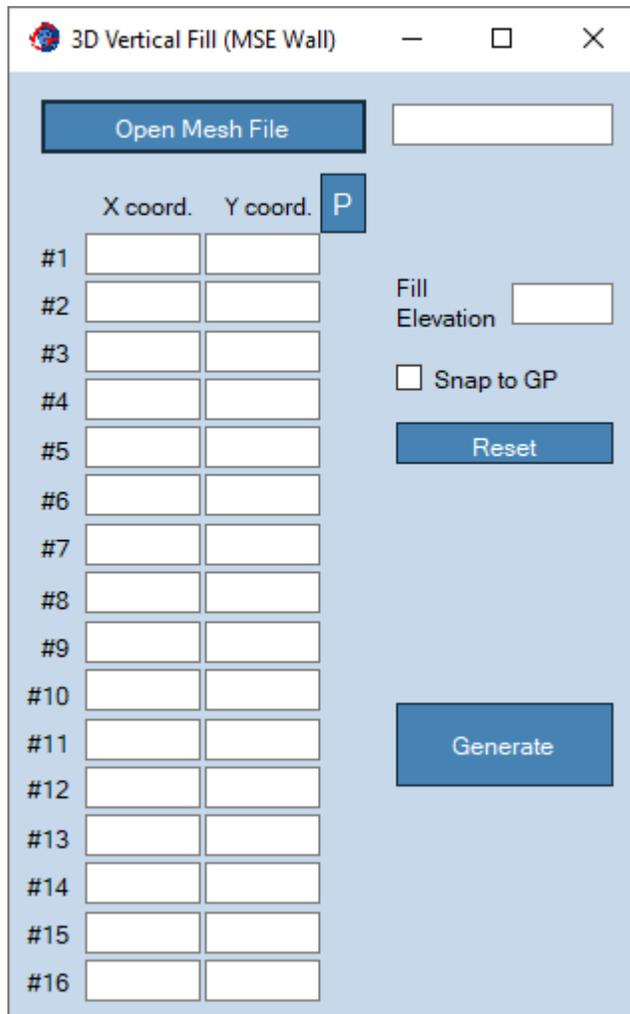

Figure 25: 3D Surfaces Menu – Vertical Fill (MSE Wall).
- **Meshing Menu, Vertical Fill (MSE Wall):** This option (shown in Figure 25) defines a Vertical Fill (MSE Wall) landform over any given surface.